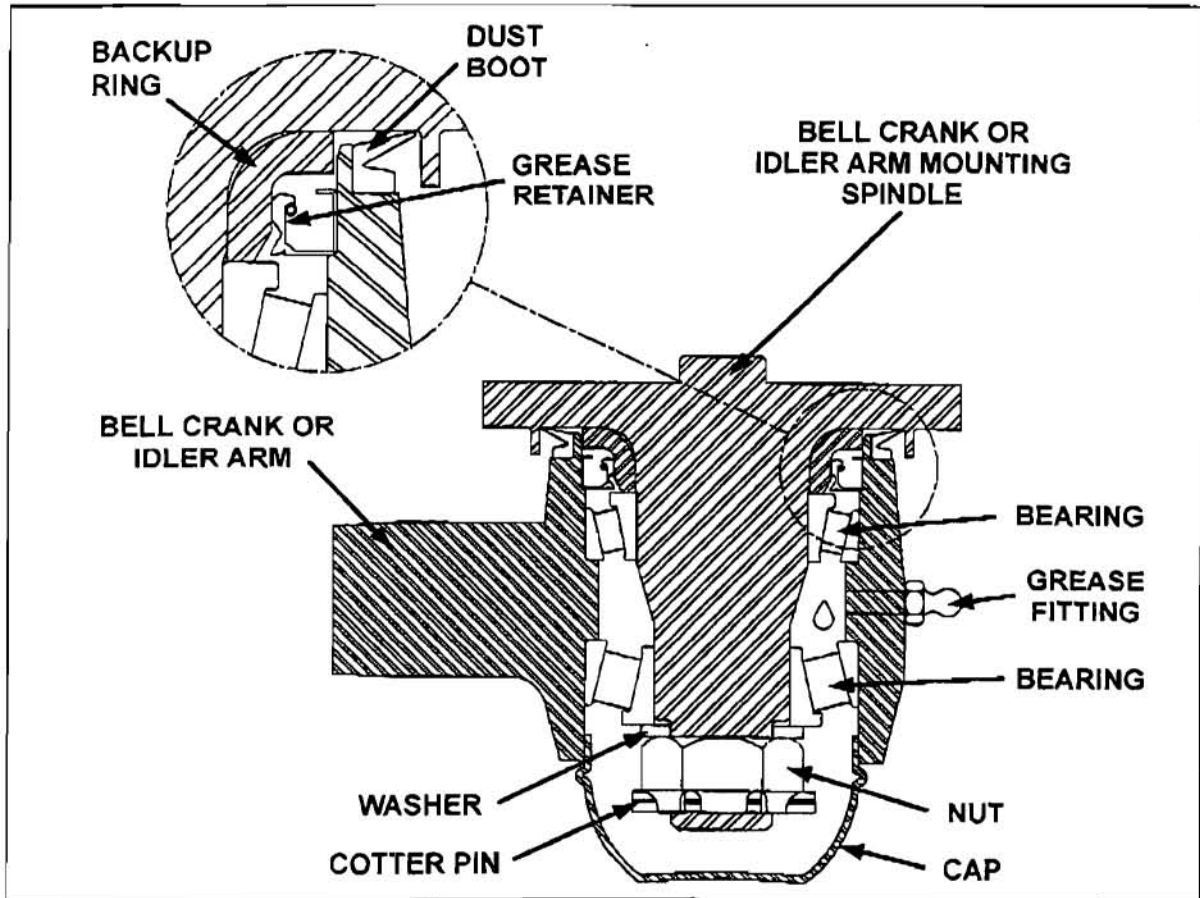

FIGURE 4: BELL CRANK OR IDLER ARM MOUNTING SPINDLE INSTALLATION
8. Firmly tighten nut (Fig. 4).
*Bend cotter pin around the nut (Fig. 4). Do not bend the cotter pin in the direction of the cap, because it may interfere with the cap.*